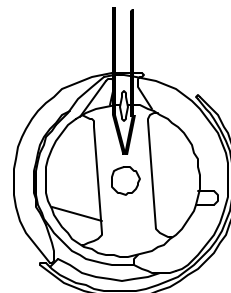

Figure 2
16. Before making any adjustments see if needle **eyelet** is positioned halfway through hook basket. See *Figure 2*.